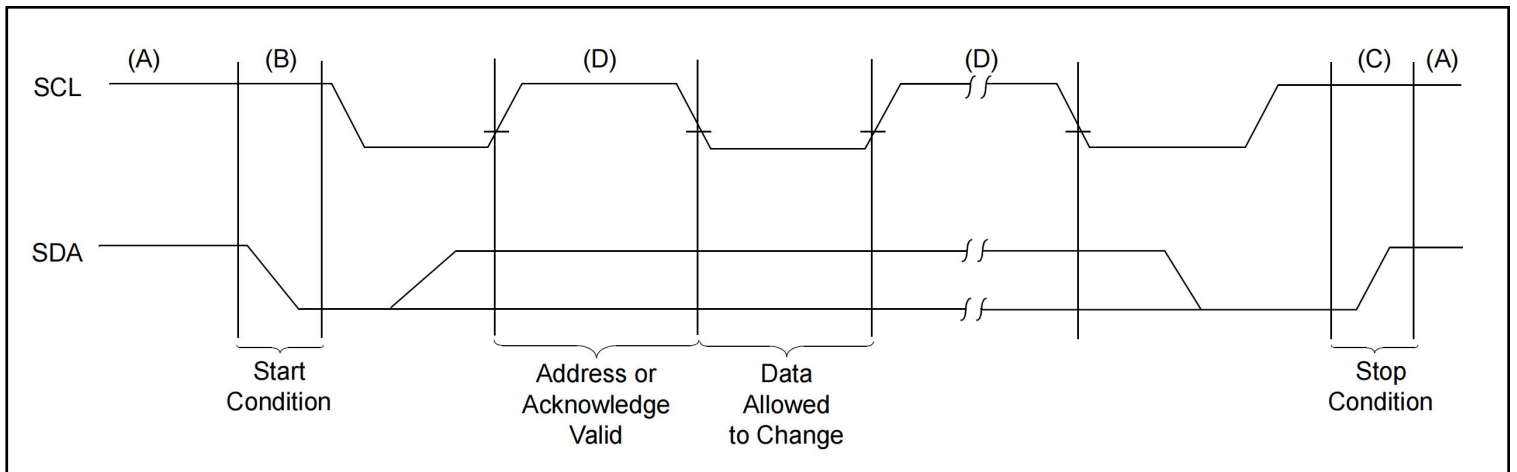

FIGURE 2: DATA TRANSFER SEQUENCE ON THE SERIAL BUS
- During data transfer, the data line must remain stable whenever the clock line is high. Changes in the data line while the clock line is high will be interpreted as a Start or Stop condition. Accordingly, the following bus conditions have been defined (Figure 2).